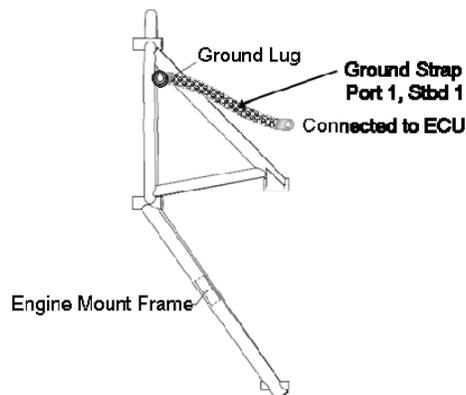

Figure 71-26 Engine Mount Frame Ground Straps
3. Remove ground straps shown in Figure 71-26 connecting the engine mount frame to ECU-1 and ECU-2